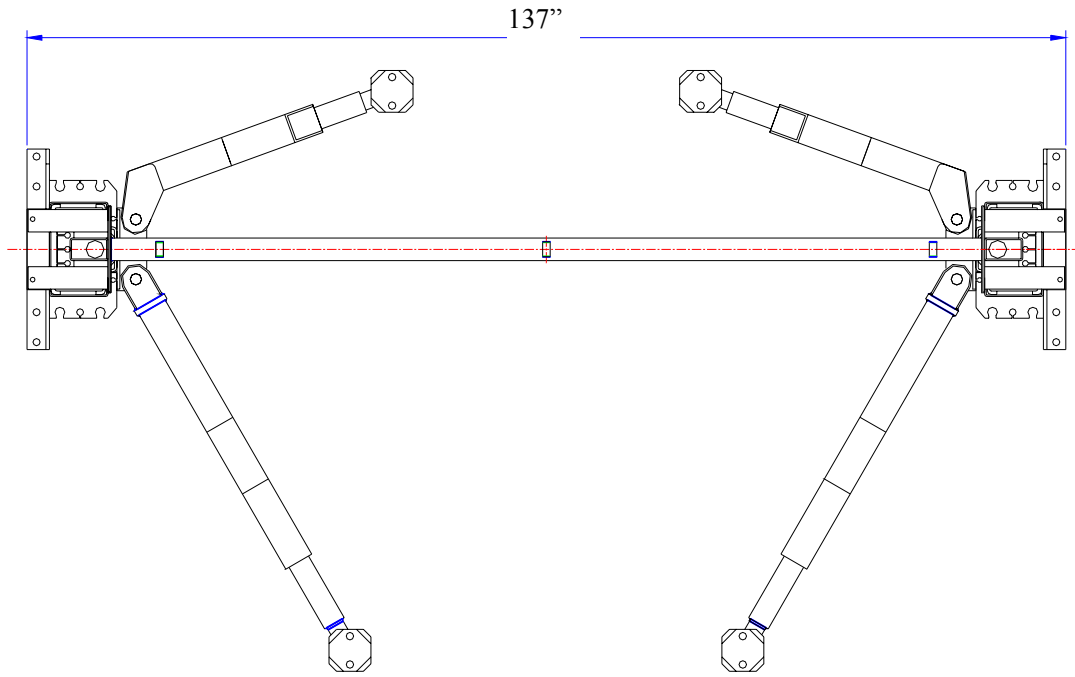

Fig.2
- A. Always use an architect's plan when provided. Before unpacking the lift entirely, determine if the site is adequate for the lift model being installed, see figures 2 and 3 for typical bay layout and ceiling height requirements.
- A. Raise the Mainside leg only and position it where it is to be secured, figure 2.
- I. Raise the offside leg and position it where it is to be located, figure 2. **Do not drill holes for anchors.**